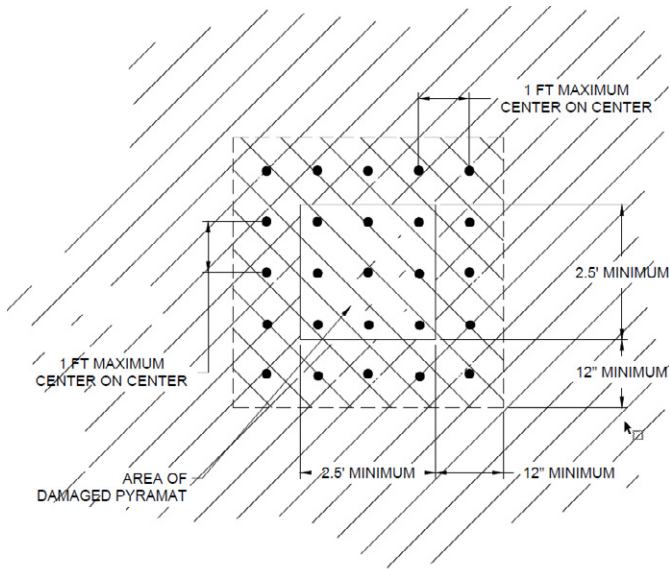

Figure 15: PROPEX Pyramat patch plan view
- A. Acceptable (A) - The rated area is in satisfactory, acceptable condition, and will function as designed and intended during the rain event. **PROPEX** Pyramat has no exposed edges, is installed tightly by maintaining direct contact to the slope surface with no drilling beneath, and has over 90% vegetation cover. There is no noticeable damage present.
- B. Minimally Acceptable (M) - The rated area has a minor deficiency that needs to be corrected. The minor deficiency will not seriously impair the functioning of the area during the next rain event; however, the overall reliability of the project will be lowered because of the minor deficiency. **PROPEX** Pyramat has 75% vegetation cover with unvegetated patches as large as one square yard. Edges of the material are exposed with noticeable damage. Minimal erosion has occurred underneath **PROPEX** Pyramat.
- C. Unacceptable (U) - The rated area is unsatisfactory. The deficiency is so serious that the area will not adequately function in the next rain event. **PROPEX** Pyramat has been physically torn, ripped, or lifted from the slope surface. Less than 75% vegetation cover is present with unvegetated patches being greater than 1 square yard, and there is evidence that erosion is occurring beneath **PROPEX** Pyramat.
3. To repair **PROPEX** Pyramat, cut out and remove damaged areas in a square configuration a minimum size of 2 ft by 2 ft (0.6 m x 0.6 m). Remove all vegetation and debris atop of the material. Loosen the top 1-2 in (25-51 mm) of soil in the patch area then seed. The subgrade of area to be patched shall be prepared to be smooth and uniform and transition smoothly into the in-situ area. Cut a square **PROPEX** Pyramat patch a minimum of 12 in (305 mm) greater than the damaged area for all four sides of the patch. Overlap the patch area in all directions a minimum of 12 in (305 mm). The patch overlaps shall be tucked under the existing damaged **PROPEX** Pyramat material (Figure 14 and Figure 15).